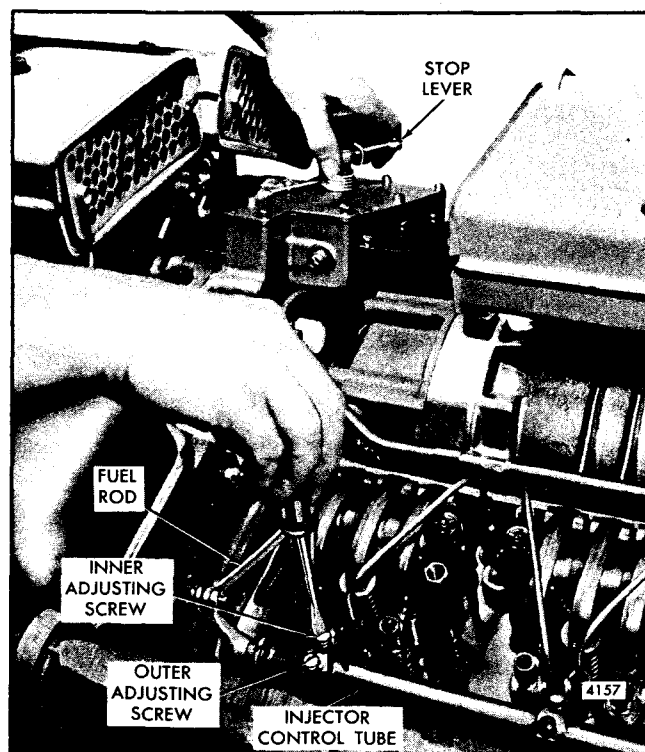

Fig. 4 - Positioning No. 4R Injector Rack Control Lever
4. Move the stop lever in the RUN position and hold it in that position with a light finger pressure. Turn the inner adjusting screw of the No. 4R injector rack control lever down until a slight movement of the stop lever is noted (Fig. 4). Turn down the outer adjusting screw until it bottoms lightly on the control tube. Then alternately tighten both the inner and outer adjusting screws.